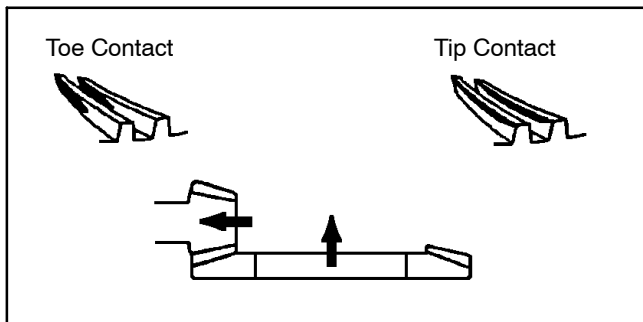

Figure 48
2. If contact is toward the toe or tip of the gear (Fig. 48):